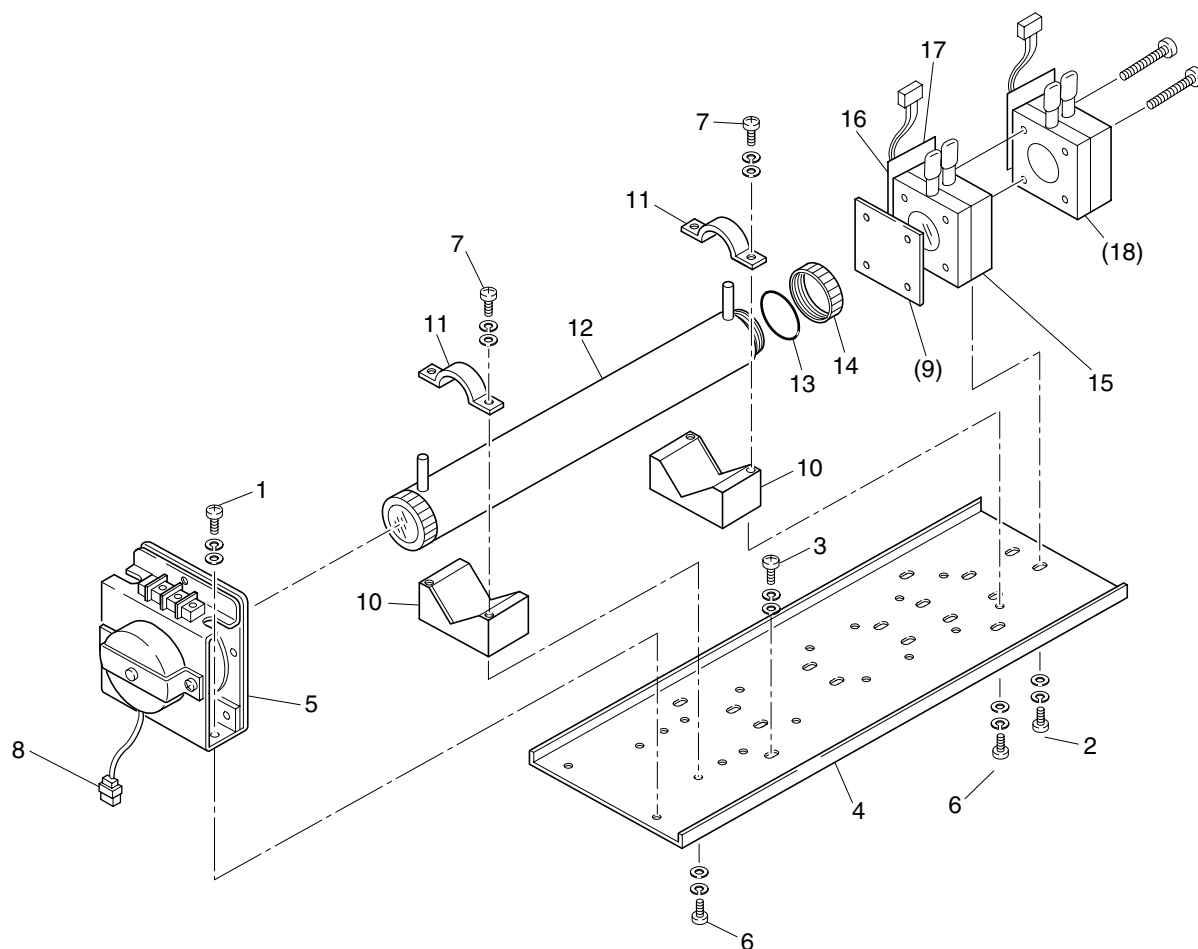

Fig. 7-1 Configuration of measuring unit (pipe cell)
2-component analyzer may incorporate both sampling cells in optical unit. In such a case, detach the pipe cell and then block cell (See Fig. 7-1).
#### (1) How to remove pipe cell (See Fig. 7-1)